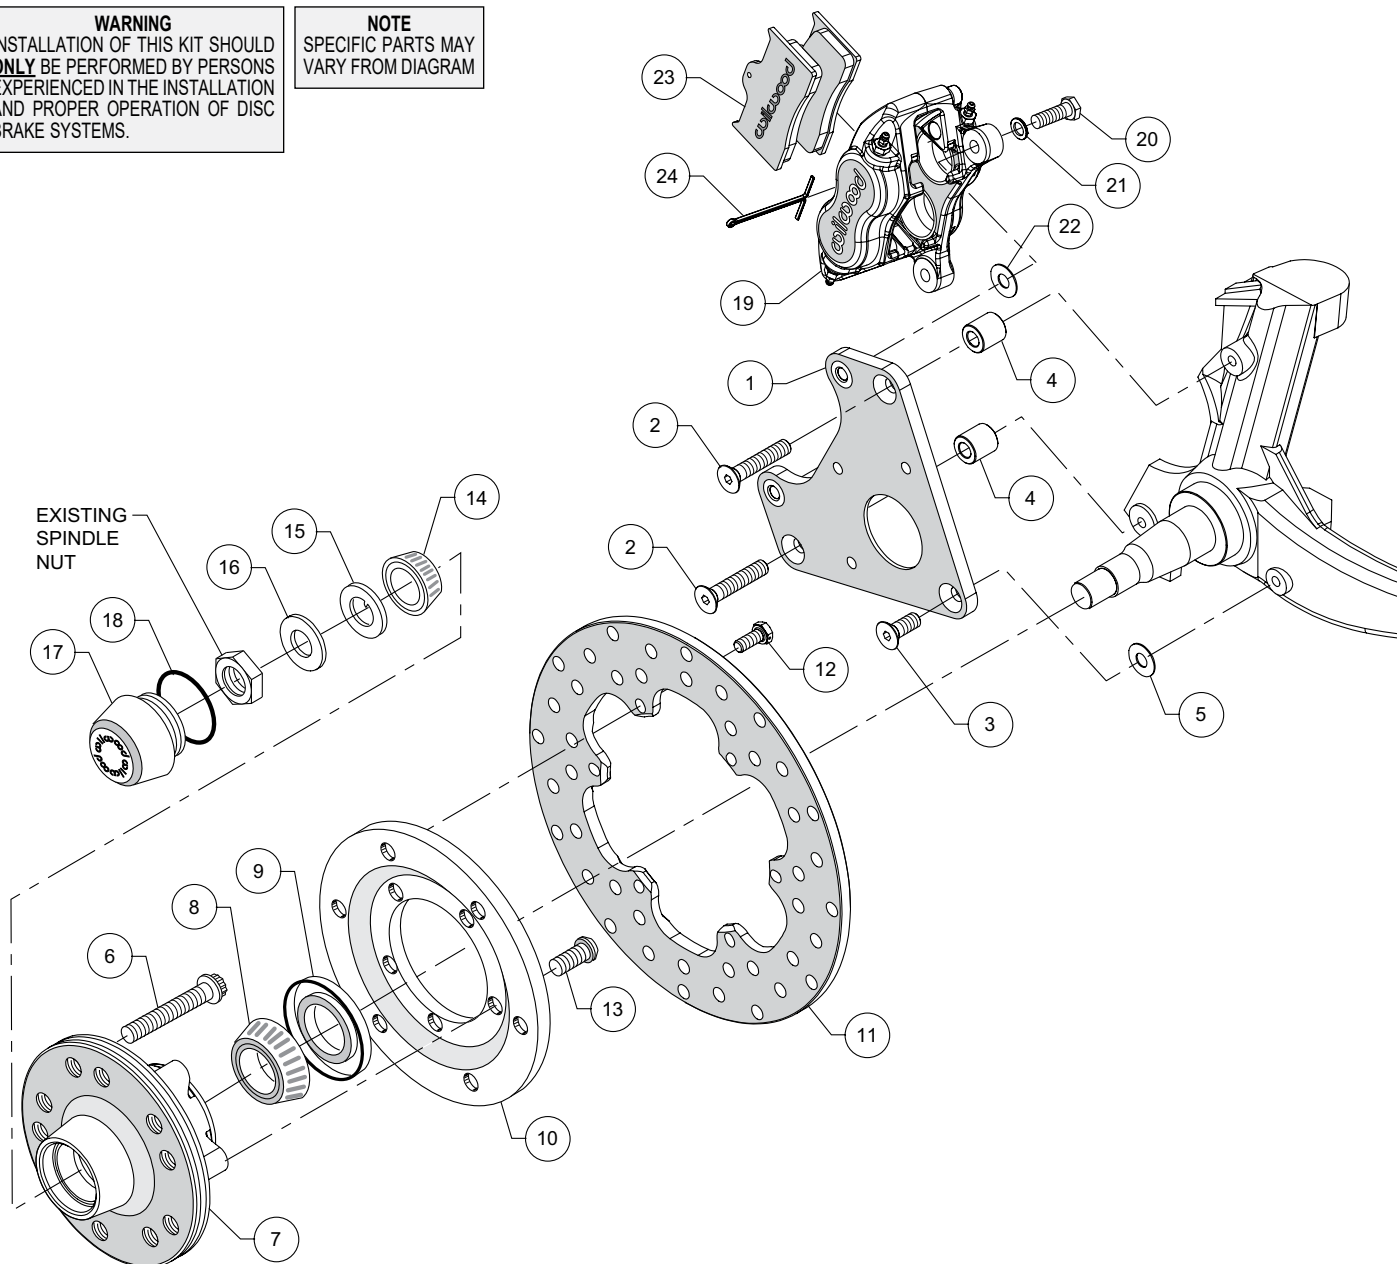
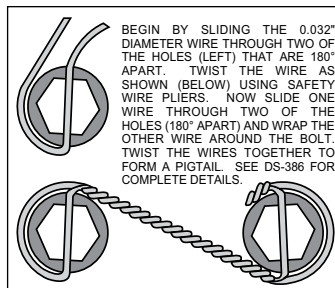
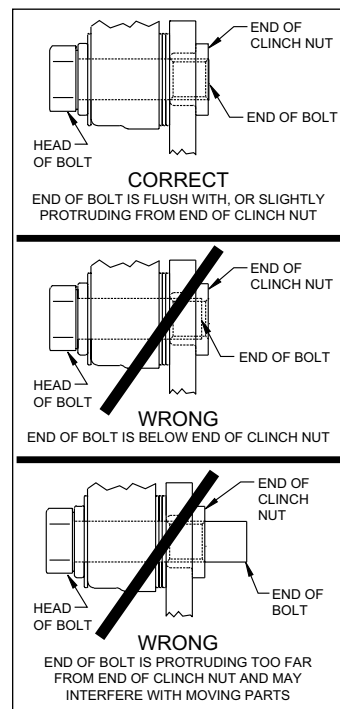

Figure 2. Typical Installation Configuration
Figure 4. Safety Wire Diagram
Figure 5. Clinch Nut Engagement Diagram
NOTE: Numbers in parenthesis refer to the parts list and Figure 2 on the preceding pages.
CAUTION: All mounting bolts must fully engage clinch nuts. Be sure to check that all bolts are either flush or protruding through flanged side of clinch nut after shimming, Figure 5.
- Orient the caliper mounting bracket (1) as shown in Figure 2 and Photo 1. Attach using bolts (2), bolt (3), spacers (4) and washer (5), Figure 2. Temporarily tighten the mounting bolts. Ensure that the flanged heads of the clinch nuts in the bracket are facing outboard, Photo 1. **NOTE:** The bracket must fit squarely against the mounting points on the spindle. Inspect for interference from casting irregularities, machining ridges, burrs, etc. Remove bolts one at a time, apply red *Loctite*® 271 to threads and torque bolts (2 and 3) to 30 ft-lbs.
- Install wheel studs (6) into the hub (7), Photo 2. Torque to 77 ft-lb. **NOTE:** There are two five lug patterns in the hub (5 x 4.50 and 5 x 4.75). Ensure the correct hub stud pattern is being used to fit the wheel application.
- Pack the large inner bearing cone (8) with high temperature disc brake bearing grease (available from your local auto parts store) and install into the backside of the hub (7), Photo 3.
- Install the grease seal (9) by pressing into the backside of the hub (7), flush with the end of the hub, Photo 3.
- Orient the rotor (11) and the rotor adapter (10) as shown in Figure 2 and Photo 4. Attach the rotor to the adapter using bolts (12). Apply red *Loctite*® 271 to the bolt threads and torque to 25 ft-lb using a criss-cross pattern. Safety wire bolts using standard 0.032 inch diameter stainless steel safety wire as shown in Figure 4. Refer to Wilwood's data sheet DS-386 (available at www.wilwood.com/Pdf/DataSheets/ds386.pdf) for complete safety wire installation instructions.
- Mount the adapter/rotor assembly (10 and 11) to the hub (7) using bolts (13), as shown in Figure 2 and Photo 5. Apply red *Loctite*® 271 to the bolt threads and torque to 45 ft-lb using a criss-cross pattern.
- NOTE:** *Please reference the caution statement at the beginning of the assembly instructions.* Mount the caliper (19) onto the caliper mounting bracket (1) using bolts (20) and washers (21), as shown in Figure 2. Initially place one .035" thick shim (22) on each bolt between the caliper and the bracket, Photo 8. Temporarily tighten the mounting bolts and view the rotor (11) through the top opening of the caliper. The rotor should be centered in the caliper, Photo 9. If not, adjust by adding or subtracting shims (22) between the bracket and the caliper. Always use the same amount of shims on each of the two mounting bolts. **NOTE:** *The end of each bolt must be flush with or slightly protruding from the head of the clinch nut, as shown in Figure 5.* If necessary place spare shims (22) between washer (21) and caliper mounting ear to achieve the proper clinch nut engagement. Once the caliper alignment and clinch nut engagement are correct, remove the bolts one at a time, apply red *Loctite*® 271 to bolt threads, and torque to 40 ft-lb. For an added measure of security, the bolts may be safety wired using standard 0.032 inch diameter stainless steel safety wire as shown in Figure 4. Refer to Wilwood's data sheet DS-386 (available at www.wilwood.com/Pdf/DataSheets/ds386.pdf) for complete safety wire installation instructions.